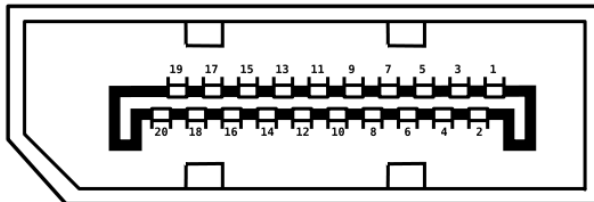

Figure 3-25: HDMI Connector Pinout Locations
- CN Pinouts:** See **Figure 3-25** and **Table 3-24**